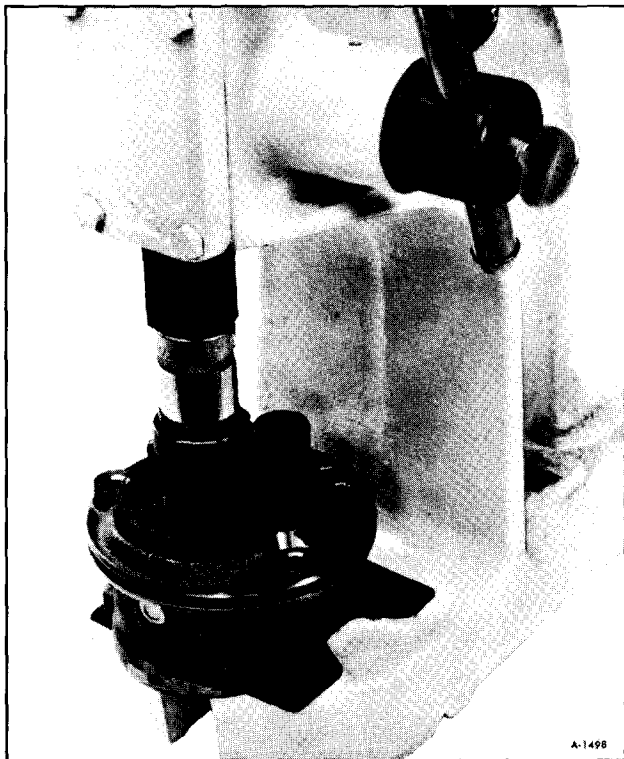

Figure 17—Installing Shaft Seal
1. Install new pump shaft seal using seal protector J-22616 and seal installer J-7728 or a 1 inch socket with an arbor press or hammer (figure 17).